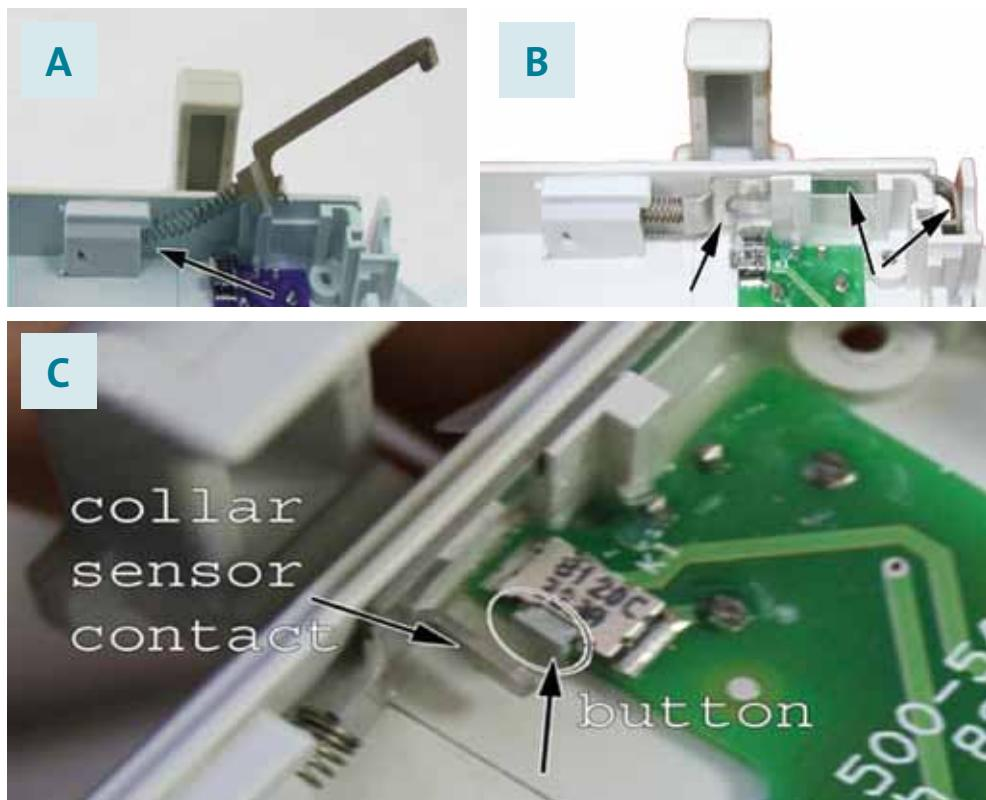

Figure 26. Collar sensor insertion
- f Fix the collar sensor and spring locker unit in place as follows (Figure 26):